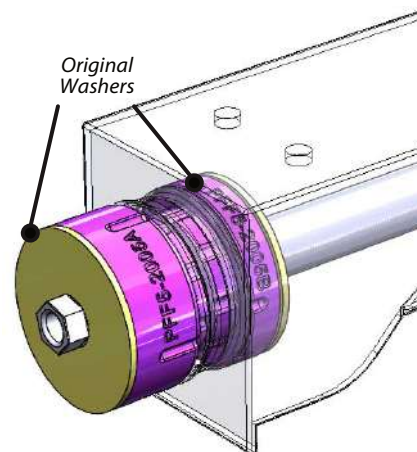

Figure 2
4. Apply some of the supplied grease to the bore of both bushes and insert the sleeve into the bush. See figure 2.